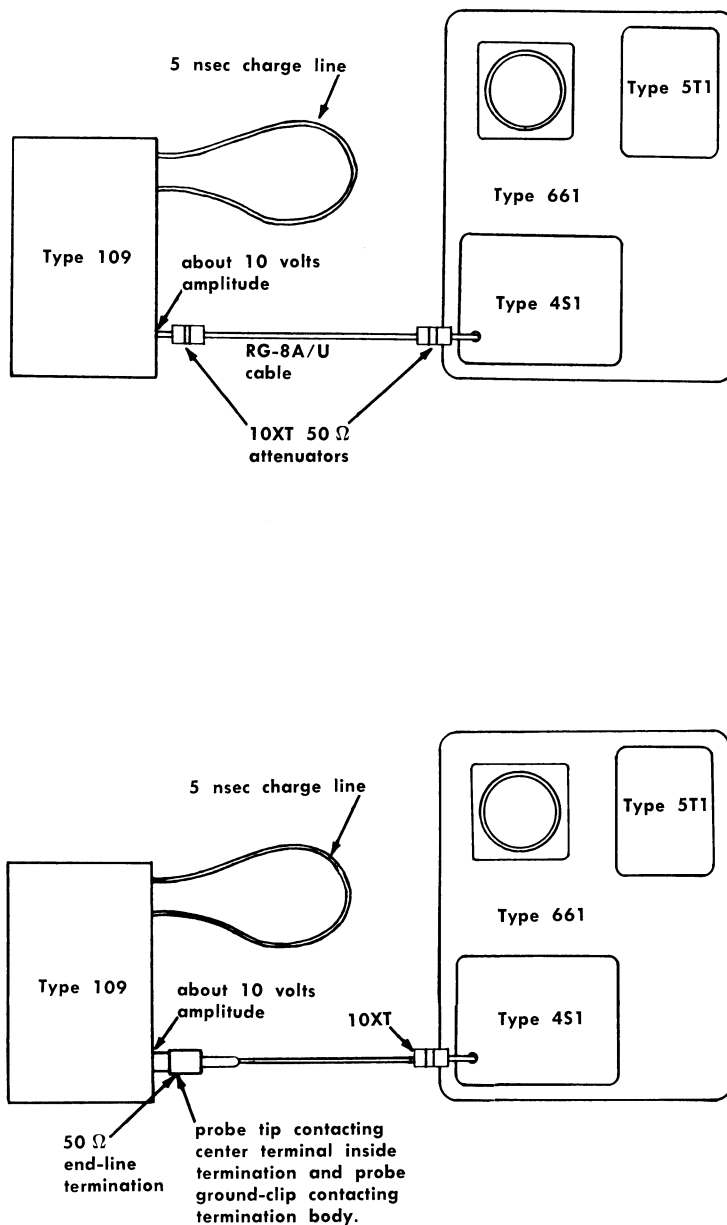

Fig. 6. Equipment set-up for compensating the P6034.
1. Connect the equipment as shown in set-up #1, Fig. 6.
5. Remove the metal cap from the end-line termination. Connect the equipment as shown in set-up #2, Fig. 6. Do not use an extension cable between the probe cable connector and the sampling oscilloscope input. Make the probe ground connection to the termination body with a ground-clip (without strap or other leads). This set-up provides a 25 Ω source impedance to the probe.